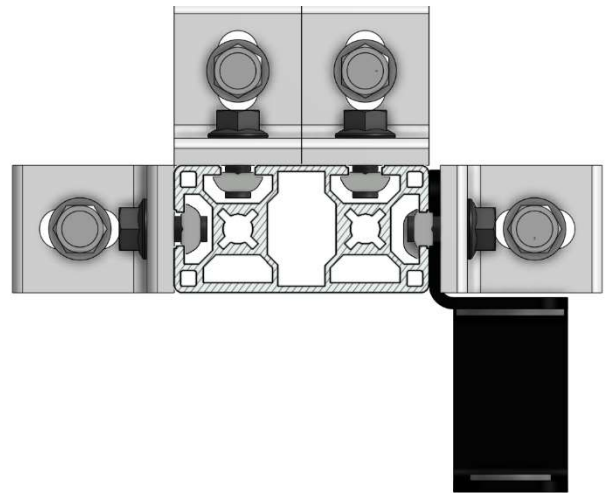

Figure 3. Available bracket mounting locations.
2. Determine the floor anchoring locations based on the available bracket mounting locations (see *Figure 3*).